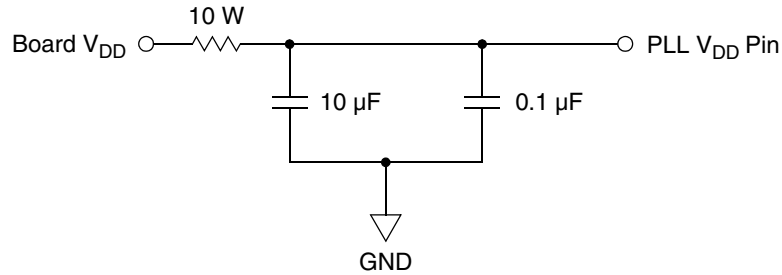

Figure 1. System PLL V_{DD} Power Filter
- ¹ IV_{DD} and $PLL V_{DD}$ should be at the same voltage. $PLL V_{DD}$ should have a filtered input. Please see Figure 1 for an example circuit. Note: There are three $PLL V_{DD}$ inputs. A filter circuit should be used on each $PLL V_{DD}$ input.
To further enhance noise isolation, an external filter is strongly recommended for PLL analog V_{DD} pins. The filter shown in Figure 1 should be connected between the board V_{DD} and the PLL V_{DD} pins. The resistor and capacitors should be placed as close to the dedicated PLL V_{DD} pin as possible.